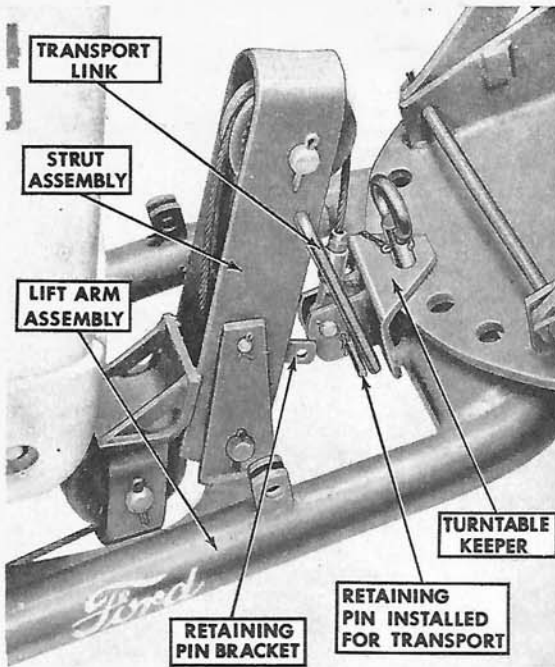

Figure 1
**Transport:** During extended periods of blade transport, it is recommended that the weight of the blade be removed from the Hydraulic Cable Control. A blade transport link and retaining pin are used to suspend the lift arm and attached blade to the dozer frame during transport. Figure 1, shows the blade in transport position and is accomplished as follows:
1. Remove the retaining pin (held with two hair pins) from the strut assembly as shown in Figure 1.